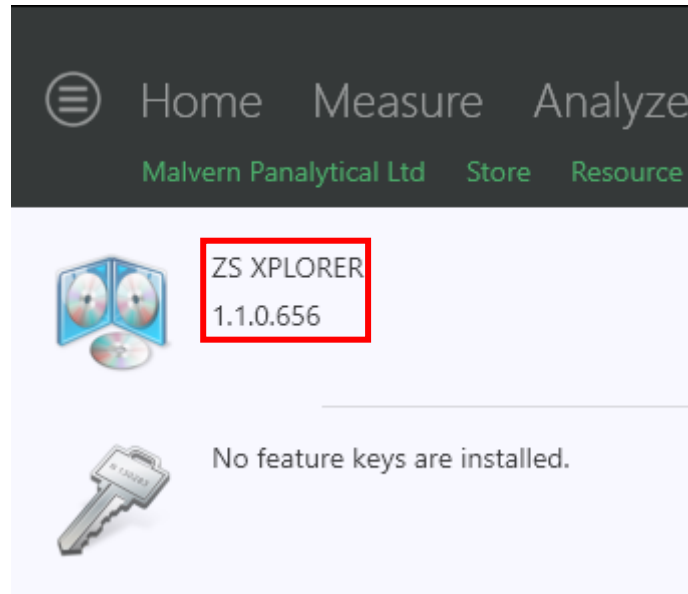

Figure 25: Software Version Number
3. Read version number (*Figure 25*)